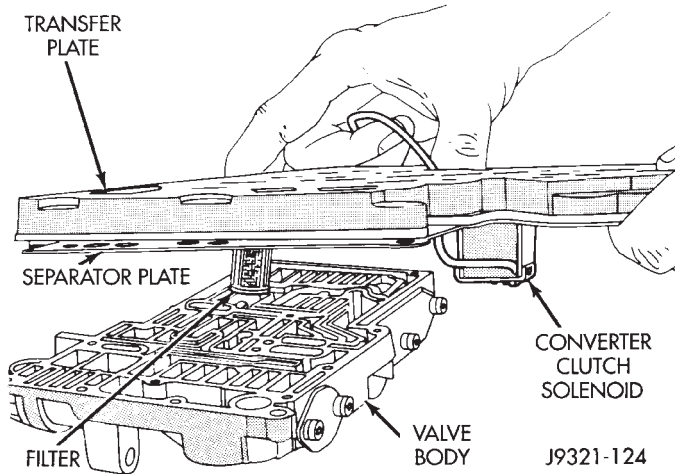

Fig. 113 Transfer Plate Removal/Installation
(12) Remove transfer plate and separator plate from valve body. Note position of filter and clutch solenoid for reference (Fig. 113). Remove valve body check balls. Note that check balls will be steel on very early production models, or plastic on later production models.
(9) Assemble regulator valve line pressure plug, sleeve, throttle plug and spring (Fig. 113). Insert as-
(14) Install 1-2 and 2-3 valve governor plugs in valve body (Fig. 113). Then install shuttle valve primary spring and throttle plug.